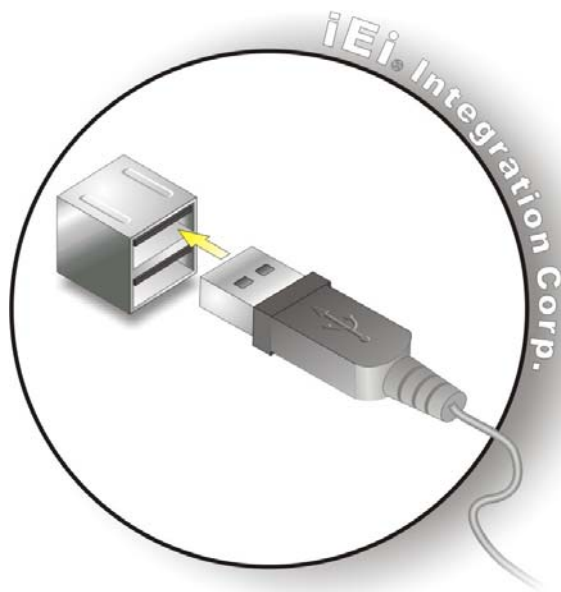

Figure 4-25: USB 3.0 Connectors
Step 2: Insert a USB plug. Insert the USB plug of a device into the USB 3.0 connector on the external peripheral interface. See **Figure 4-25**.